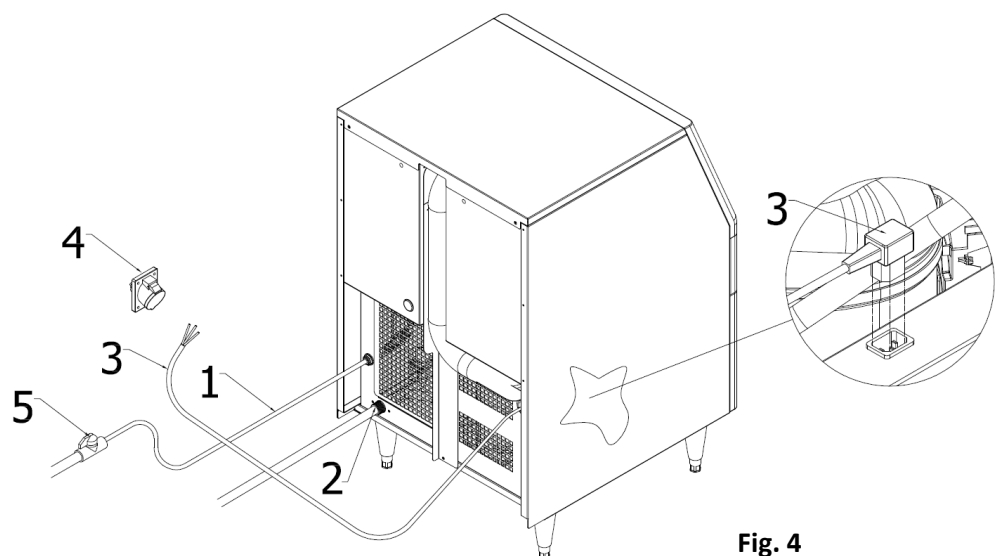

Fig. 4
- b. Connect water line and drain. Recommended routing (**Fig. 4**) allows easy access to water for cleaning and sanitizing procedure. Check if the drain cut-off valve is opened.